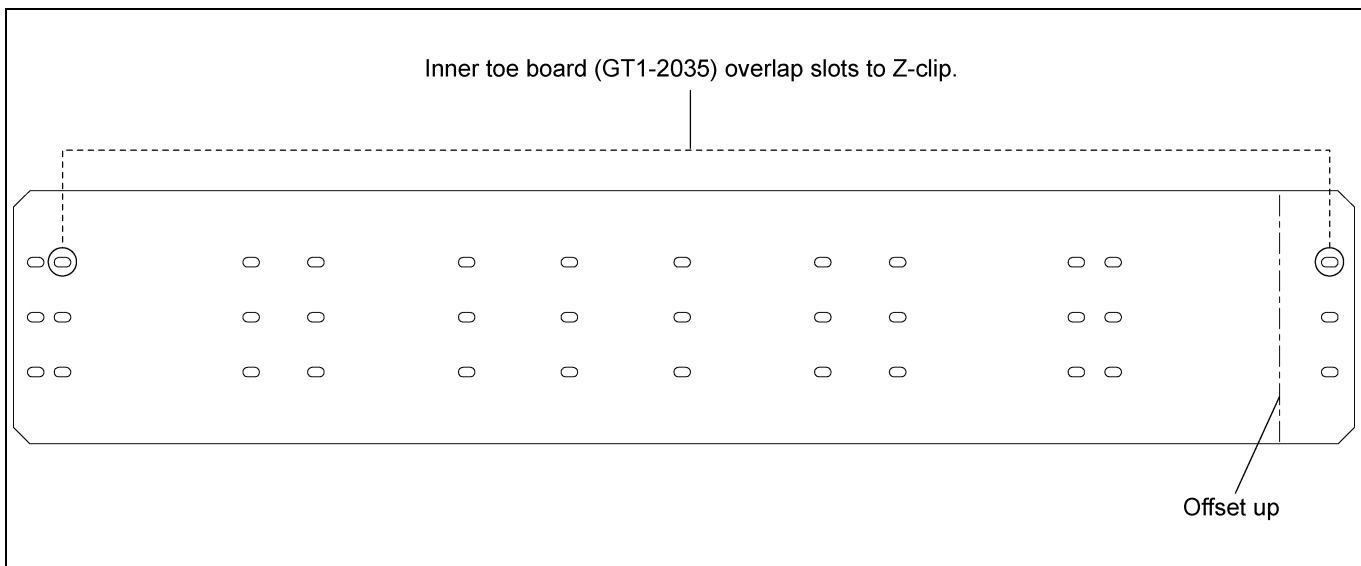

Figure 4I 24' Inner Toe Board (GT1-2035)
3. Inner toe board is arranged with overlap slots on each side. Install 24' inner toe boards (GT1-2035) to corresponding slots as shown in Figure 4I.